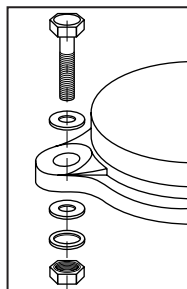

Fig. 2
5. Line up the vise with the drilled holes. Insert bolts and fasten. If the bolts extend through the bench, place a washer and nut onto the end (Fig. 2). Tighten nuts onto the bolts using a wrench. (Fasteners are not included.)